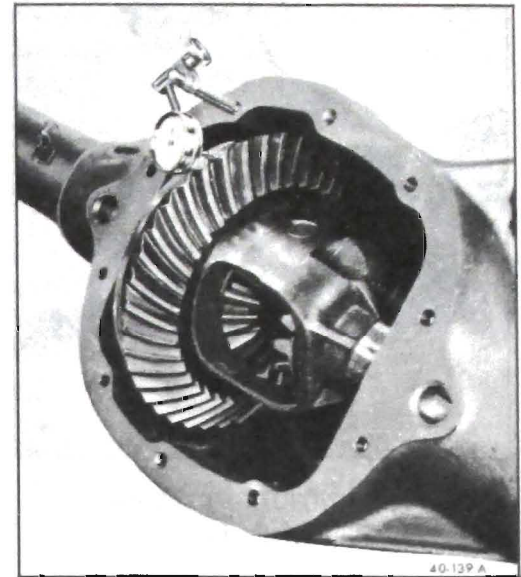

Figure 40-114 - Checking Ring Gear to Pinion Backlash
1. Rotate differential case several times to seat bearings, then mount dial indicator as shown in Figure 40-114. Use a small button on indicator stem so that contact can be made near heel end of tooth. Set dial indicator so that stem is as nearly as possible in line with gear rotation and perpendicular to tooth angle for accurate backlash reading.